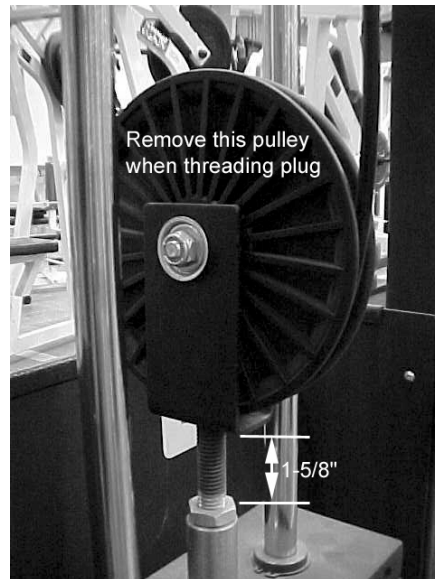

Figure 12. Bolt the floating pulley into the 190 lb weight stack (on cable crossover).
6. **Bolt the floating pulley into the 190 lb cable crossover weight stack** (NOT intended for the tricep pushdown weight stack- the one with the tricep back rest mounted to the frame as shown in Figure 9) using a 7/8” combination wrench. You will need to remove the pulley from the housing to thread the plug into the weight stack bayonet. Make sure the 9/16” jam nut is threaded 1-5/8” away from the pulley as shown in Figure 12. Leave the pulleys out since you will need to have them out when the cable is routed.